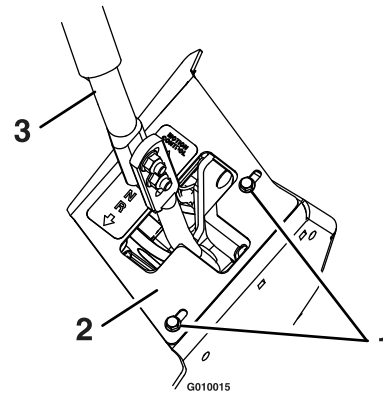

Figure 37
1. Loosen the screws on a cover plate (see Figure 37).